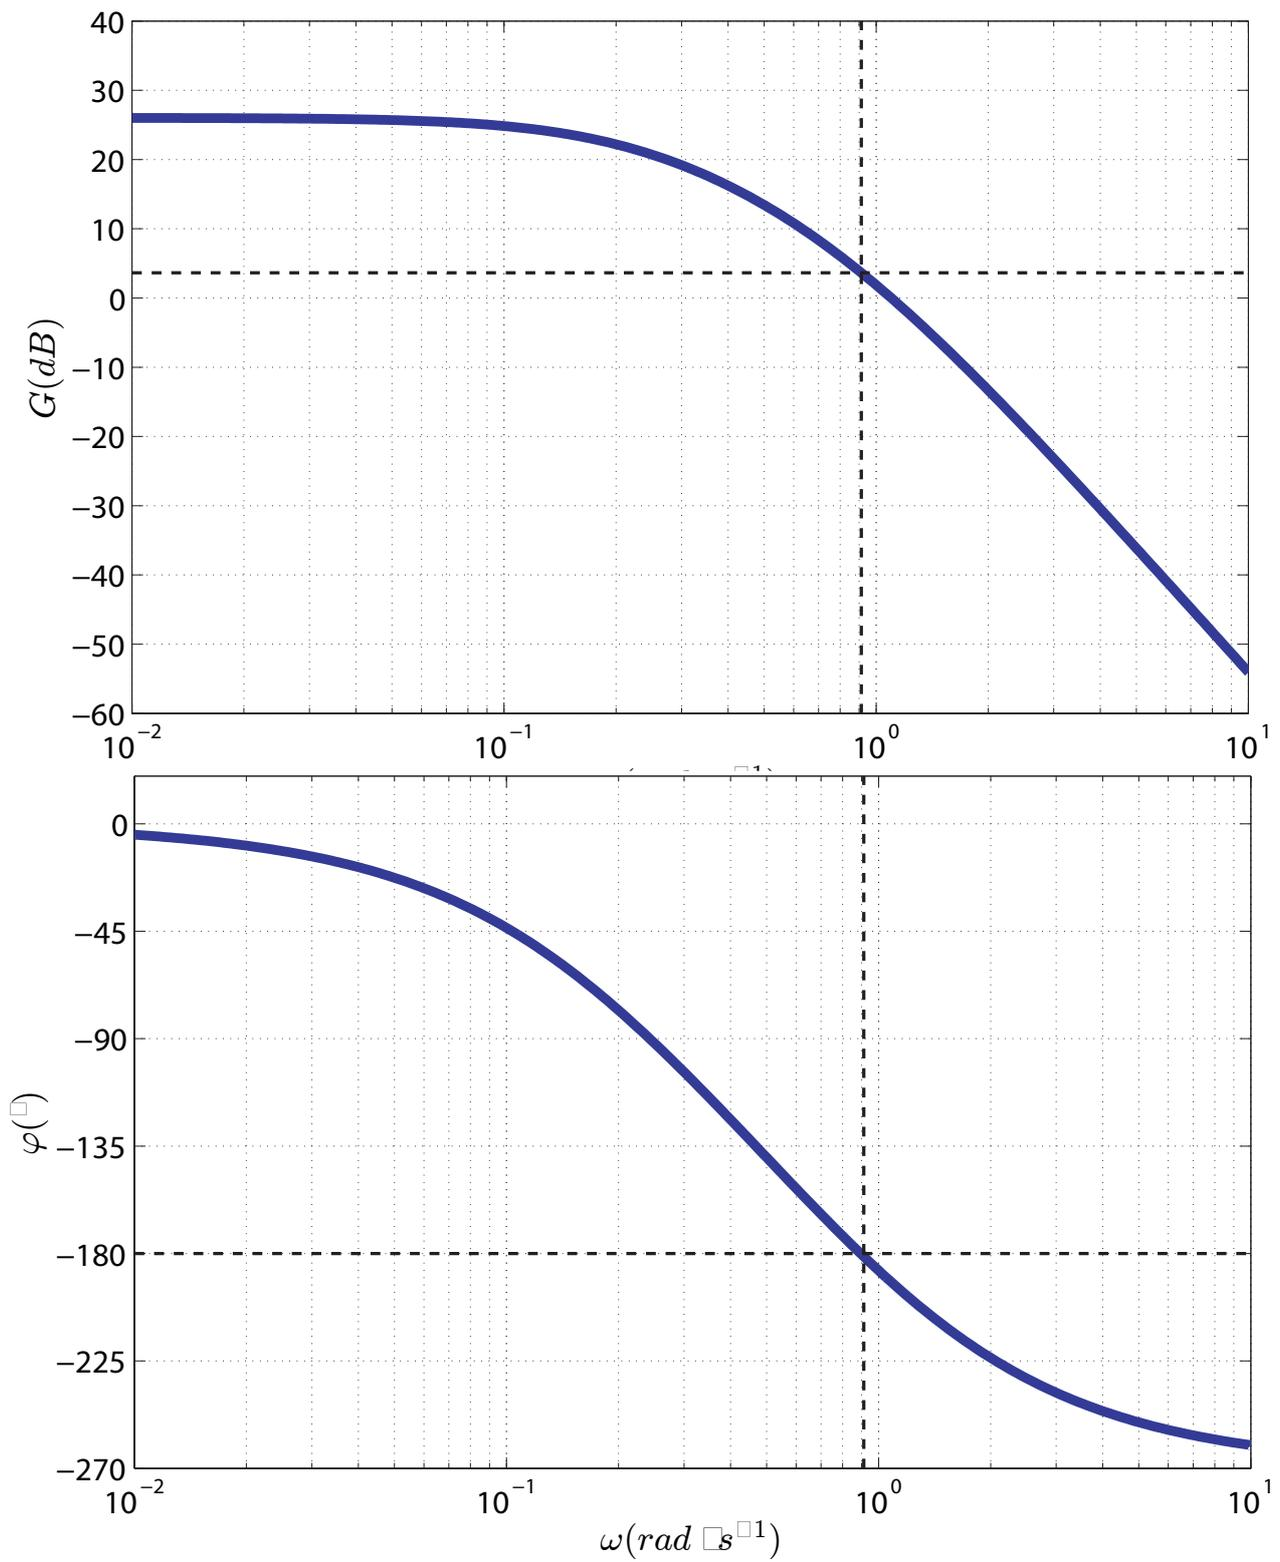

FIGURE 13 – Exemple 2
2. $FTBO(p) = \frac{20}{(1+p)(1+2p)(1+5p)}$ (figure 13).